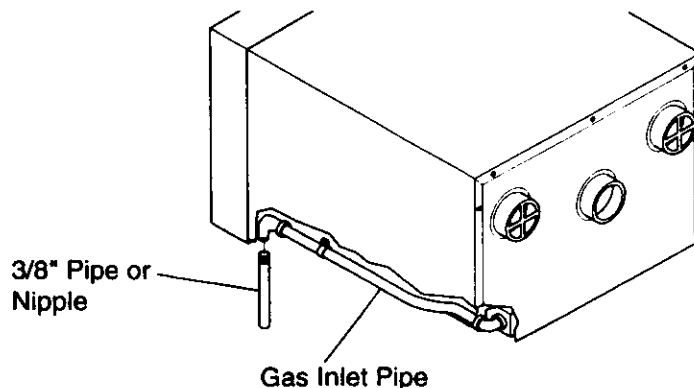

Figure 8 - Connecting Gas from Inside of Room
1. Locate gas inlet pipe on lower, right front of furnace (see Figure 8).
2. Connect 3/8" pipe or nipple to gas inlet pipe (see Figure 8). See *Providing Gas Piping to Furnace*, pages 16 and 17 for correct gas pipe installation.